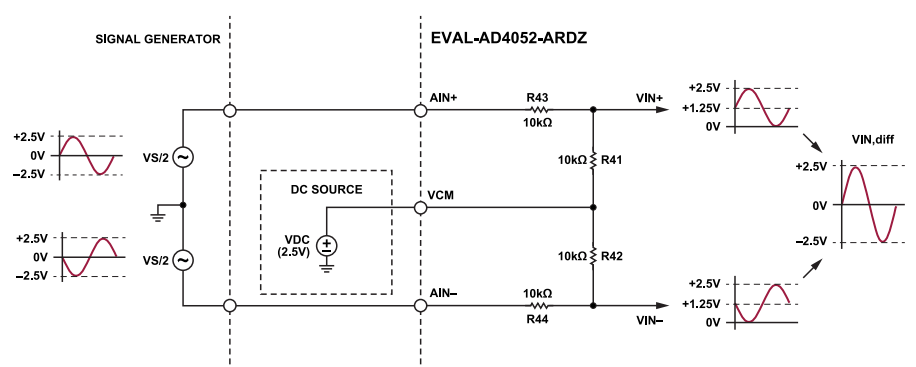

Figure 14. Bipolar Differential Signal Generator Example
- ▶ For signal generators with bipolar, differential output swings (signals that go below GND), the VCM input provides a means to apply the necessary DC offset to satisfy the input range specification of the MAX44260 amplifiers. Figure 14 gives an example